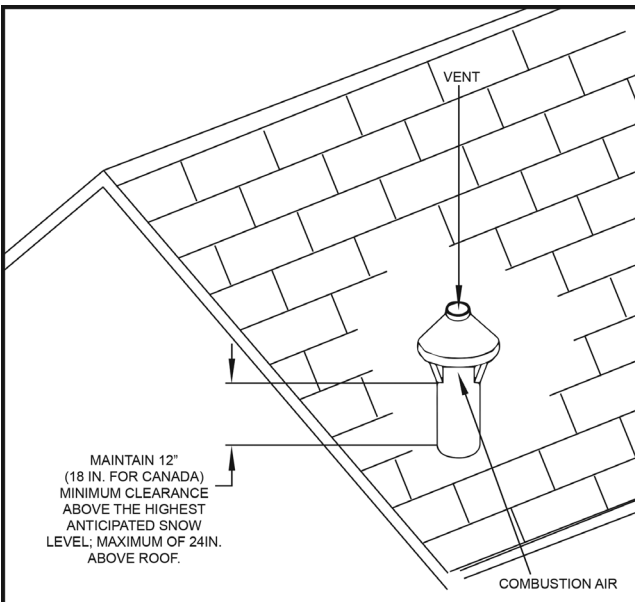

Figure 3 - Roof Termination
**NOTE:** Ensure termination height is above the roof surface or anticipated snow level (1' in USA or 1 1/2' in Canada) as shown in Fig 3.